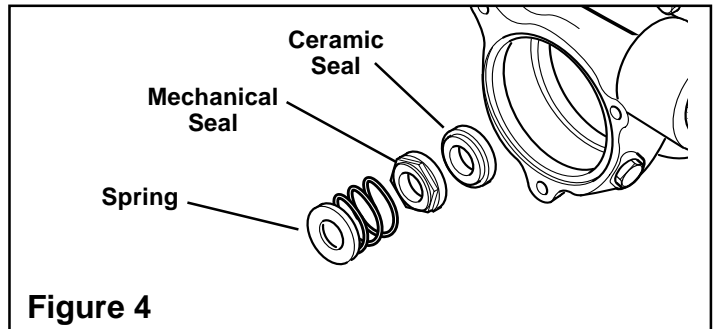

Figure 4
3. Slide the new Mechanical Seal and the new Spring onto the motor shaft (See Figure 4).
4. Align the Set Screw in the Impeller with the flat on the Motor Shaft and slide the Impeller onto the shaft until it contacts the rear of the mechanical Seal (See Figure 4).